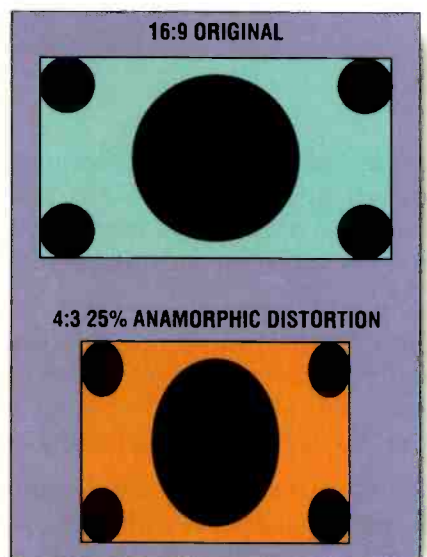

Figure 4. The anamorphic distortion mode.
- **Use the anamorphic distortion method.** Figure 4 shows the manner in which a 16/9 aspect ratio picture is squeezed horizontally to fit inside a 4/3 aspect ratio raster. This method results in anamorphically distorted shapes. In North America this method is used in the beginning and end of the movie to allow showing all the credits, many of which would be masked by the pan-and-scan process.